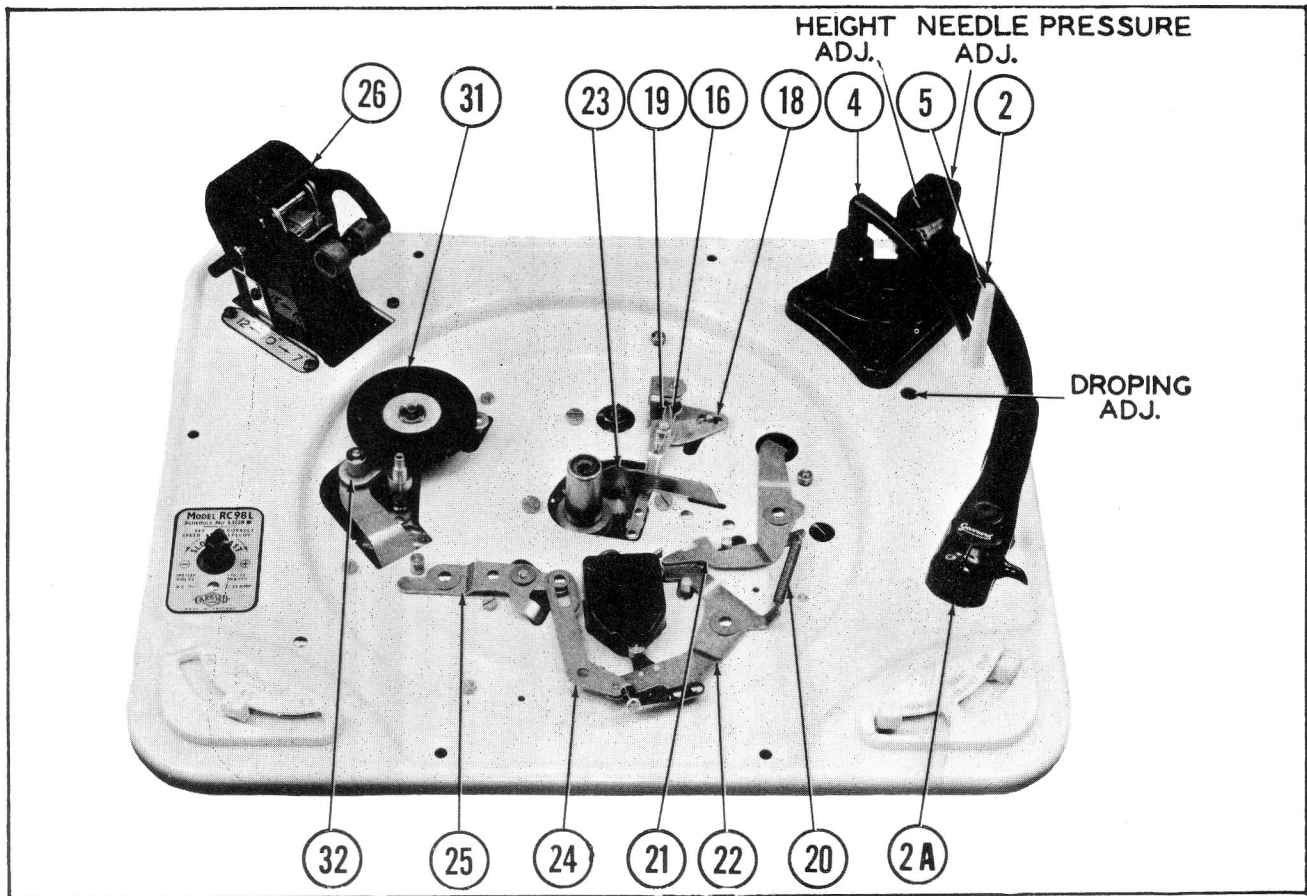

Figure 1
#### Needle Pressure Adjustment (See Figure 1)-
The auto trip mechanism is the velocity type, that is it operates by the quick inward movements of the pickup arm when the pickup reaches the run off groove at the end of the record. The auto trip is of a special design to be very light and sensitive in operation and is set to commence operation when the stylus reaches a  $2 \frac{7}{8}$ " radius from the centre. If the auto trip (16) fails to operate the pickup will remain running in the centre of the record and to correct this remove the turntable (15) and raise the auto trip operating lever (16) by giving the "adjusting screw (19) for height of auto trip operating lever," (See Figure 1), about half a turn in a clockwise direction. This will raise the auto-trip operating lever (16) and enable it to engage the cam on the striker when the pickup runs into the record run-off groove.